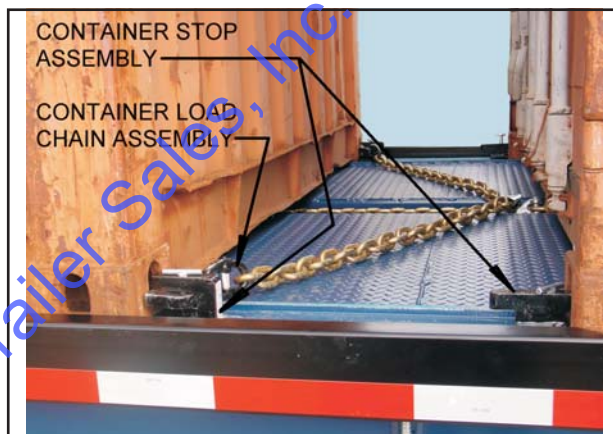

Figure 3-7 Loading Two Containers
- b. Connect rear of 20' container to trailer with container stop assembly provided (**See Figure 3-7**).
- d. The same procedure is used as loading the first 20' container except stop the container a couple feet behind the stops so the rear feet can be installed into bottom of container corner castings (**See Figure 3-7**).